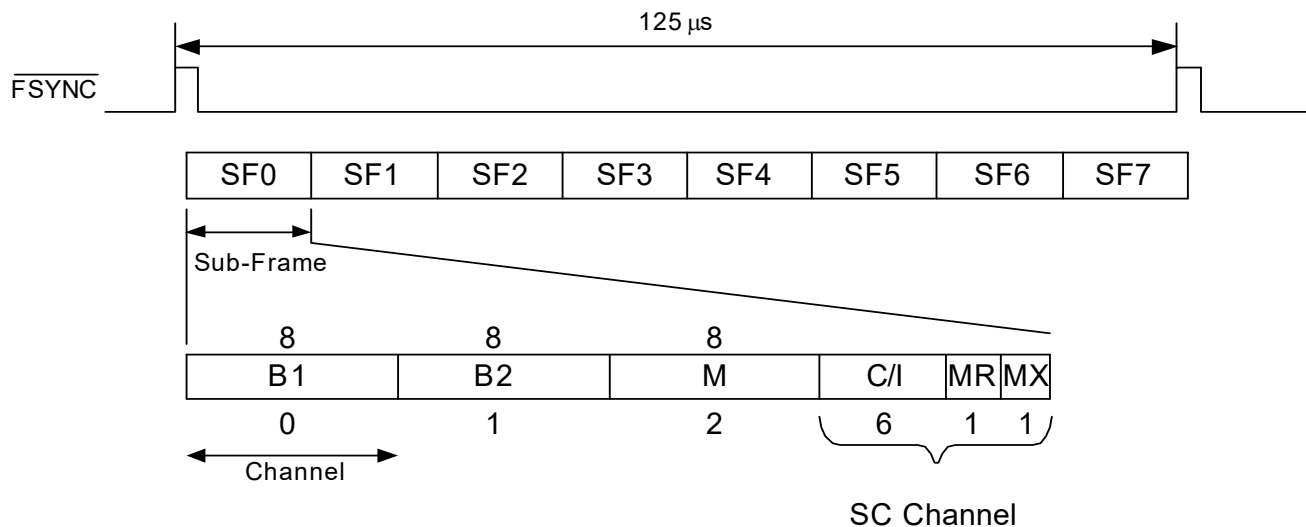

**Figure 43. Time-Multiplexed GCI Highway Frame Structure**
of the device, and one Signaling and Control channel (SC) for communicating status of the device and for initiating commands. Within the SC channel are six Command/Indicate (C/I) bits and two handshaking bits (MR and MX). The C/I bits are used for status and command communication, whereas the handshaking bits Monitor Receive (MR) and Monitor Transmit (MX) are used for data exchanges in the Monitor channel. Figure 43 illustrates the contents of a GCI highway frame.
Figure 43 illustrates the Monitor channel communication protocol. For successful communication with the Si3050, the transmitter should anticipate the falling edge of the receiver's acknowledgement. This also maximizes communication speed. Because of the handshaking protocol required for successful communication, the data transfer rate using the Monitor channel is less than 8 kbytes/second.